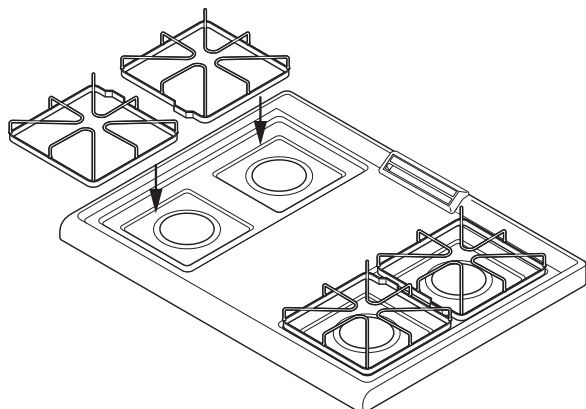

Figure 1: Grate installation
- Make sure the burner grates are properly placed on the cooktop before using the surface burners (Figure 1). Grates should rest flush against each other and against the sides of the recess.